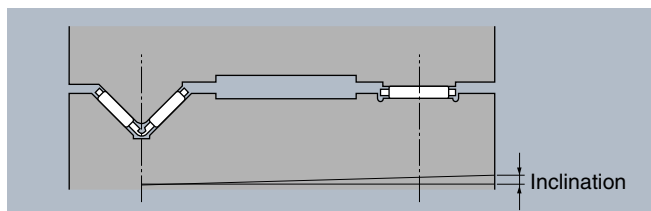

Fig. 1
① Where raceway surface hardening not allowed, a quenched spring plate may be used.
② Mounting accuracy is expressed with an inclination value in **Fig. 1**.